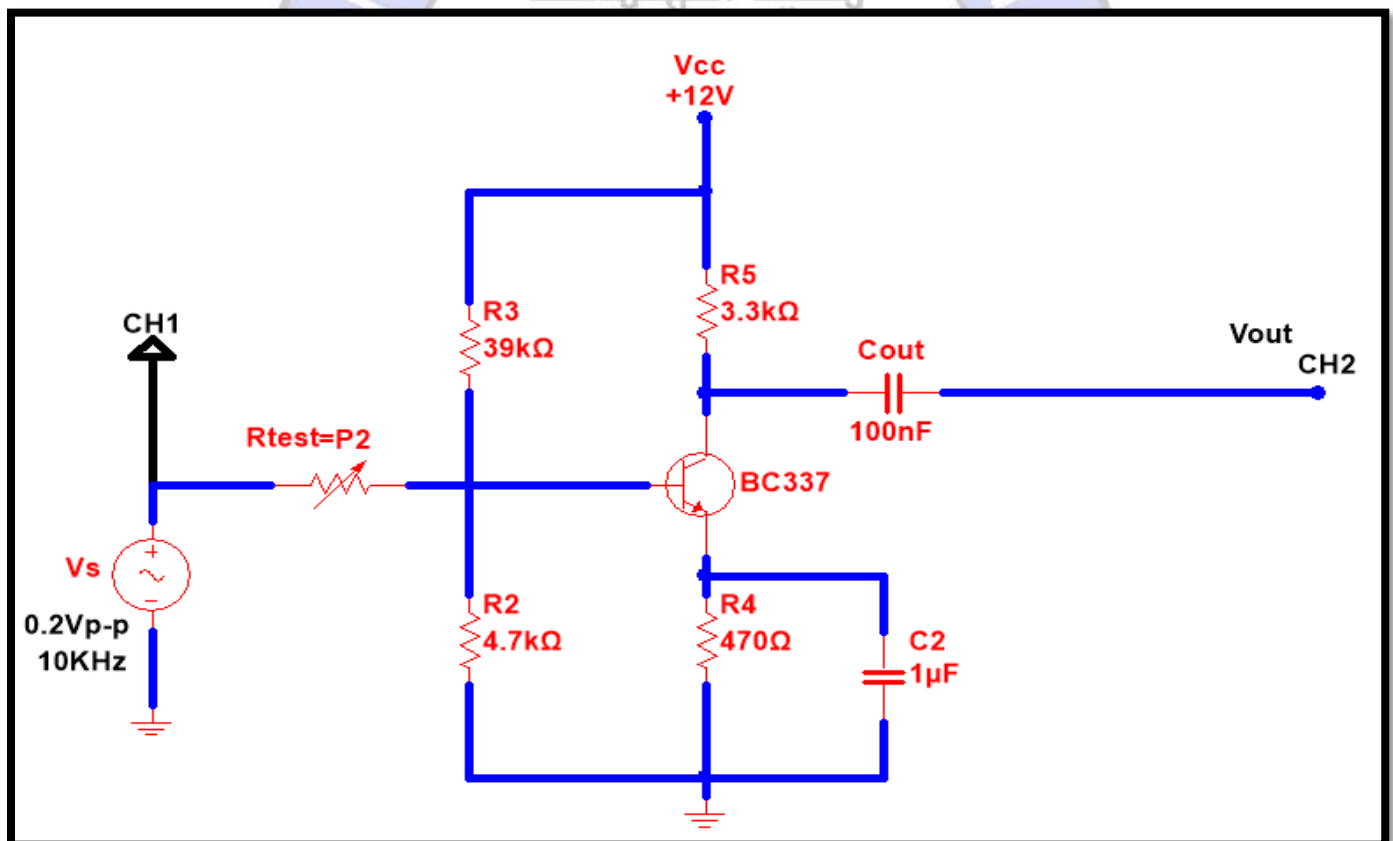

Figure 7: Test Circuit to Measure the Input Impedance of the Amplifier
6. Connect the circuit shown in Fig.7, where  $R_{test}$  is a variable resistor box. This circuit is used to measure the input impedance of the amplifier.